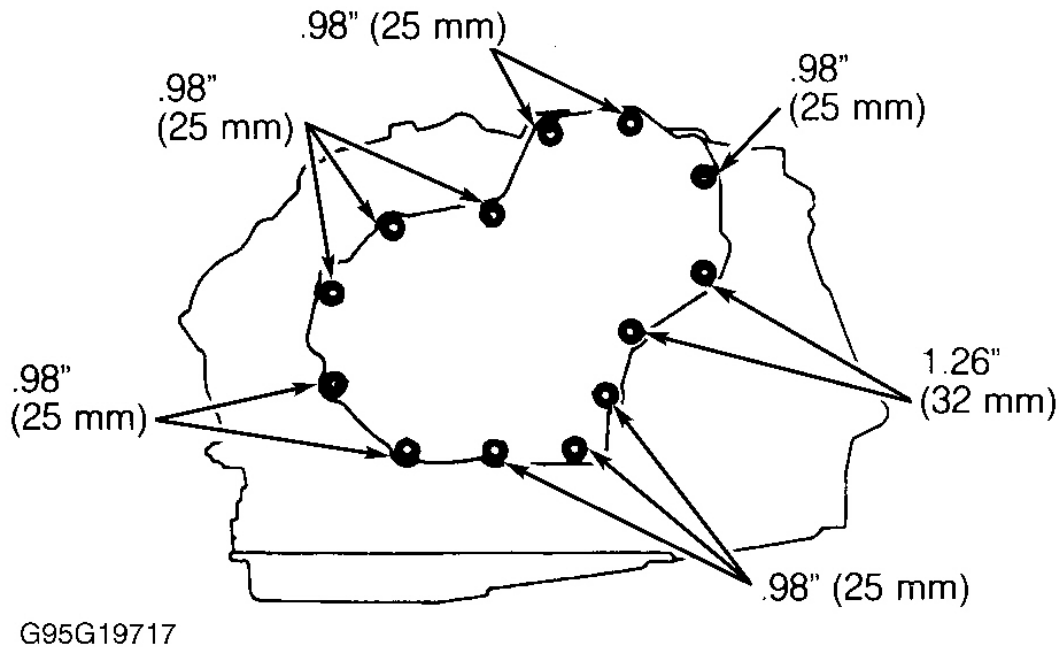

Fig. 56: Identifying Transaxle Rear Cover Bolts
16. Apply gasket sealer to rear cover sealing areas. Install transaxle rear cover and bolts. Ensure bolts are installed in correct locations. See **Fig. 56** . Tighten bolts to 89 INCH lbs. (10 N.m). Ensure intermediate shaft turns smoothly.